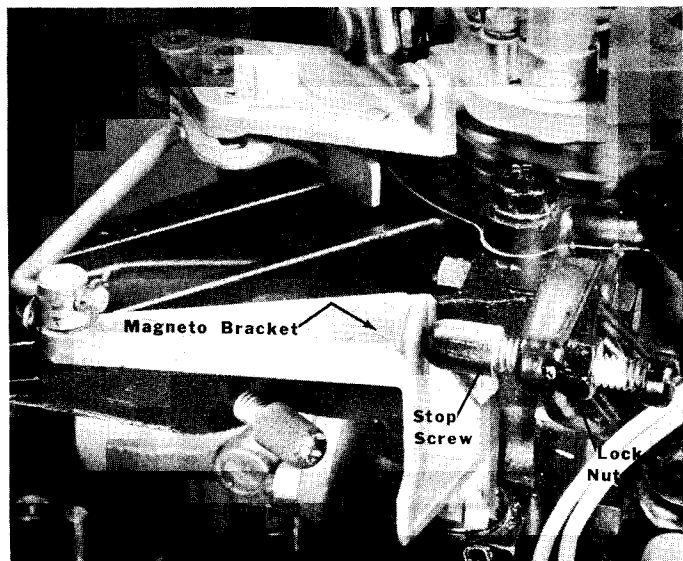
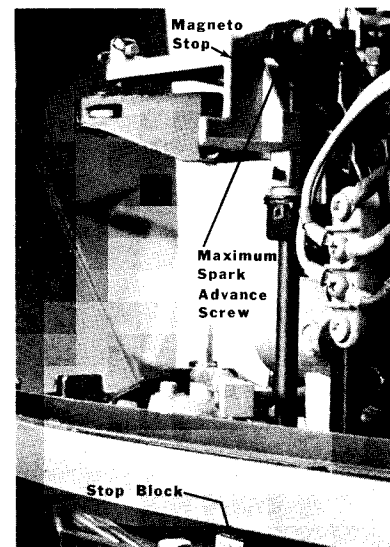

Figure 1. Stop Screw against Magneto Bracket
Figure 2. Stop Block Adjusted in Bottom Cowl
11. Hold magneto at this position, adjust stop screw to contact magneto bracket and tighten stop screw lock nut. (Figure 1)
18. Reinstall two (2) screws which were removed previously from flywheel ratchet and torque to 150 in. lbs. (26.625 kg/cm)
19. Adjust stopblock in bottom cowl to permit magneto stop to just touch maximum spark advance screw. This prevent overloading of magneto and throttle linkage. (Fig. 2)